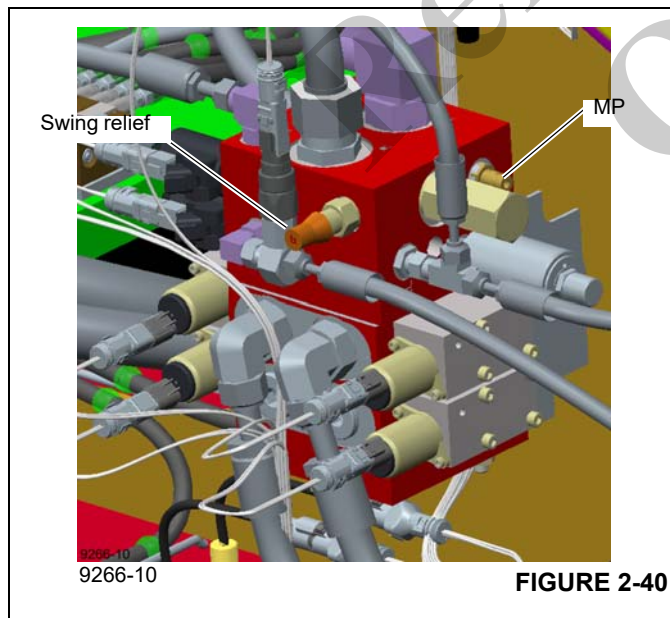

FIGURE 2-40
1. With the engine off, install a pressure check diagnostic coupler (Parker PD240) with gauge onto the diagnostic nipple at the MP port of the swing control valve (see Figure 2-40).
accelerate the engine to full RPM. The reading at MP should be 2750 ± 50 PSI (190 ± 4 bar) if it is not adjust the swing relief (see Figure 2-40) “in” to increase or “out” to decrease until the reading is achieved.